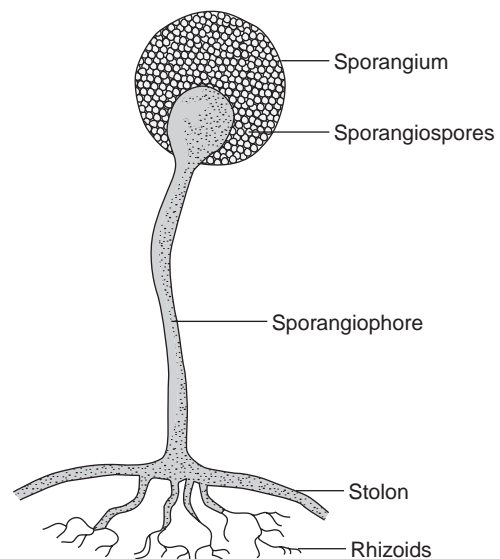

FIG. 7.2a. *Rhizopus*.
1. *Zygomycota* or *Phycomycota*. (Plate 21) These molds produce asexual *sporangiospores* in compact sacs called *sporangia*. The sporangia are borne on the tips of reproductive, **aerial** hyphae (called *sporangio-phores*), which extend aerially above the surface of the vegetative mycelium. The sacs burst, and each sporangiospore is capable of forming a new mold on an appropriate substrate. In sexual reproduction, the hyphae from one mycelium contact and fuse with the hyphae from another mycelium and form a **zygospore**. This *zygospore* can then yield asexual spores that can form new molds. The mold *Rhizopus* is an example of this class (Fig. 7.2a).